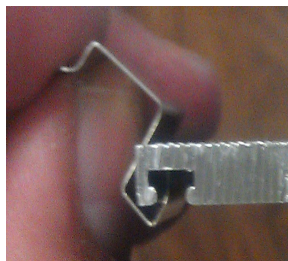

Figure B3:
2. Rotate screen clip as shown in Figure B3.